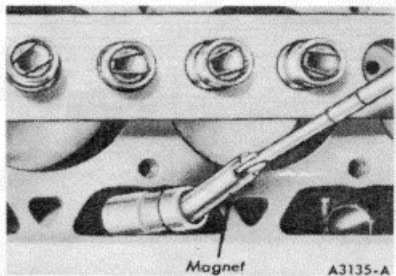

FIG. 38. Removing Valve Lifter
1. Install new (or cleaned) hydraulic valve lifters through the push rod openings with a magnet (Figure 38).